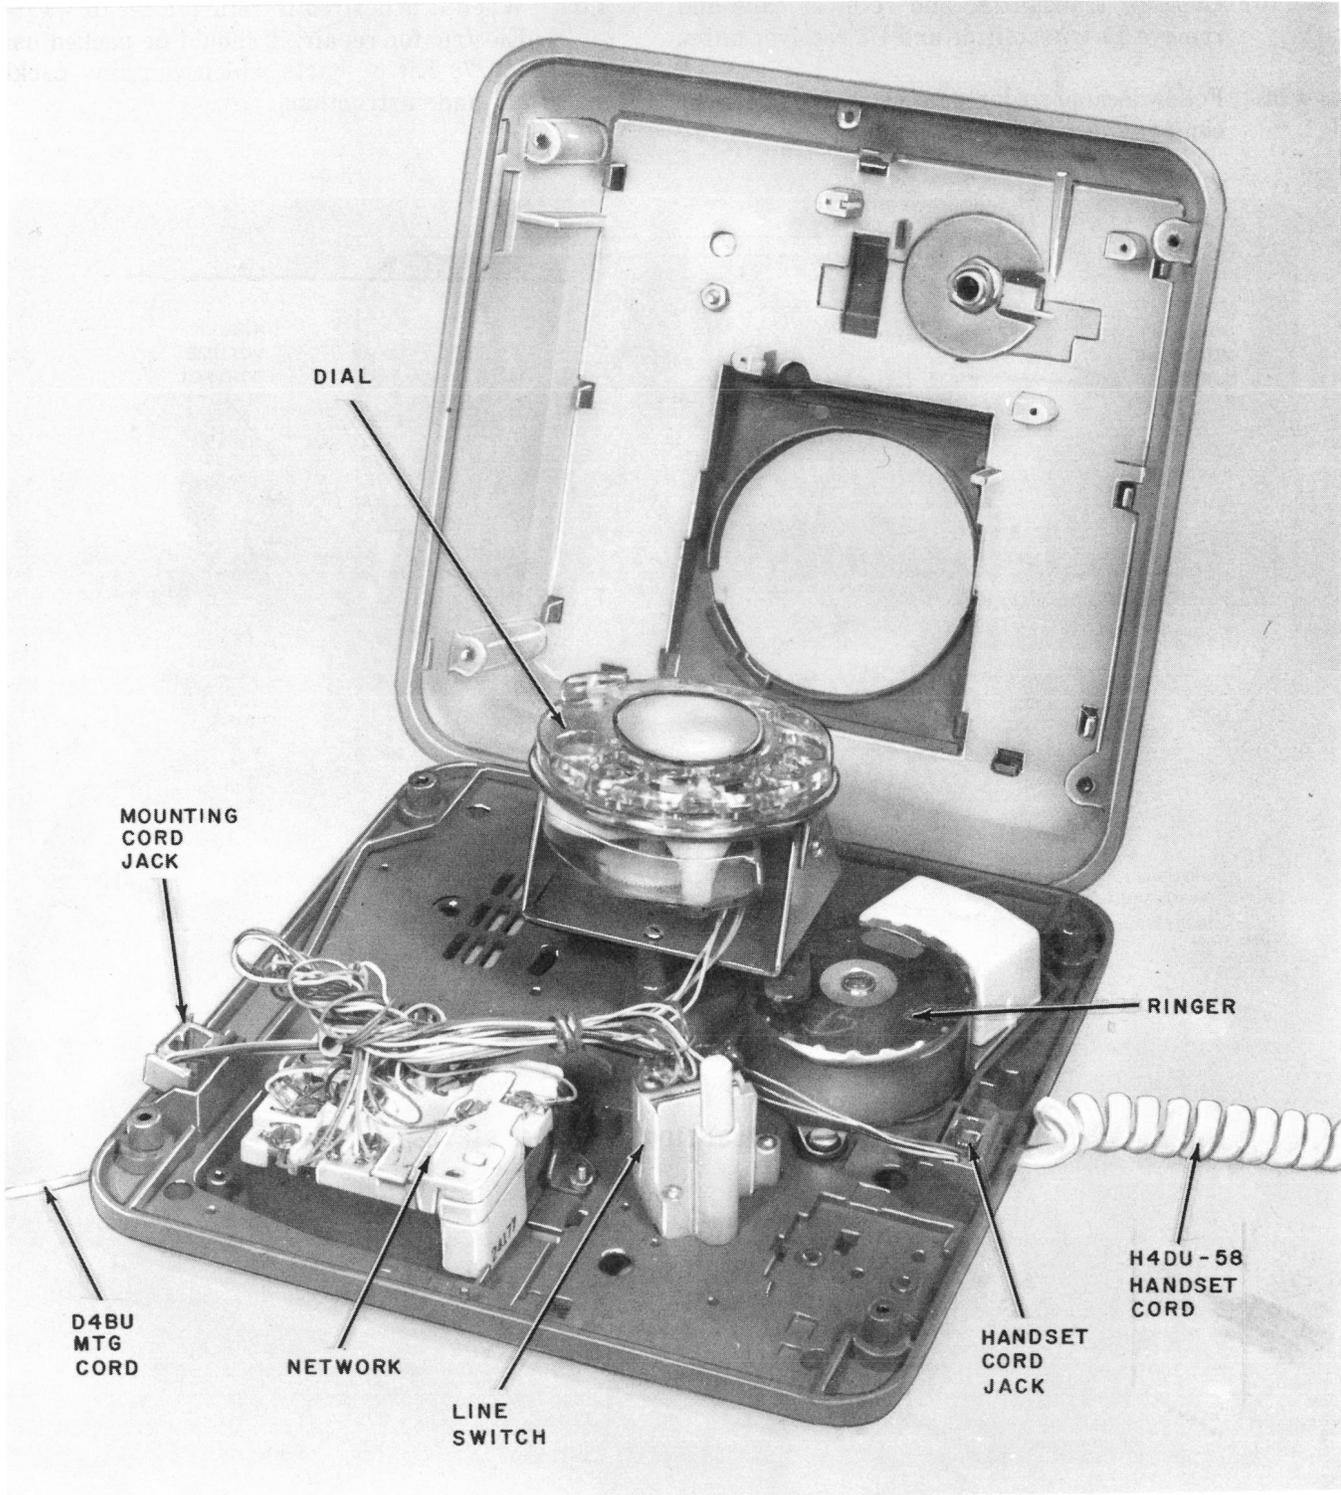

Fig. 3—881C109 Telephone Set With Housing Open
- (2) For the 881B109 or 2881B109 only, pop off small black cover on bottom of base and remove two outer line switch mounting screws from the base and remove line switch.
- (3) For the 881C109 or 2881C109 only, remove two line switch mounting screws and remove line switch (Fig. 3).
- (4) Remove two network and two ringer mounting screws from the base and remove network and ringer. (Fig. 3).